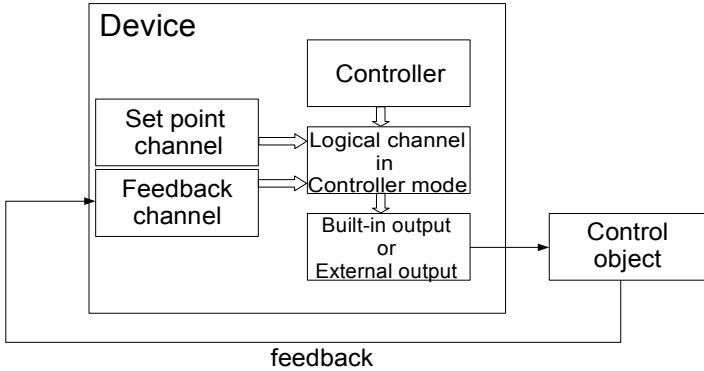
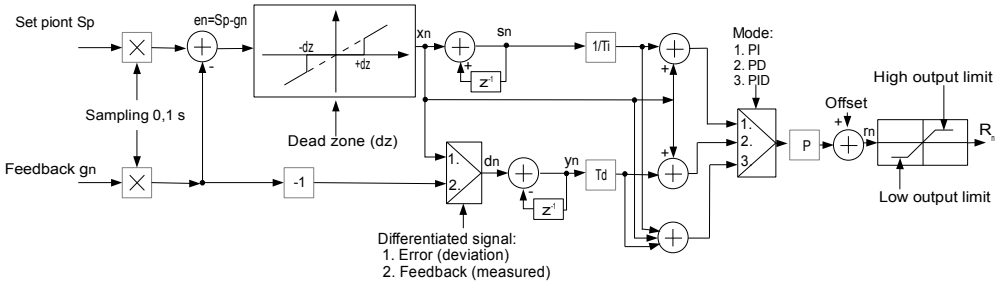

Fig. 7.108. Block diagram of the control loop of the object by MultiCon
Fig. 7.109. Block diagram of the **Controller** implemented in the device
- **Differentiated signal** - this parameter is available for **PD** and **PID** mode and allows the selection of the option (see **Fig. 7.108** and **Fig. 7.109**):
Note! After offset the output signal, the output value is limited to the range set in **Low output limit** and **High output limit** parameters (see **Fig. 7.109**),
In **Fig. 7.108** shows the block diagram of a control process of an object with the **Controller** implemented in the device. Set the setting of the selected Controller to be connected to the **Logical channel** operating in the **Controller** mode. In this **Logical channel**, select a **Set point channel** and the **Feedback channel**, which store the data required to control the object. Respectively, **Set point channel** contains a destination value of the process, while the **Feedback channel** includes the value of feedback coming from the object controlled. MultiCon uses data collected from these channels and the corresponding Controller controls the object.